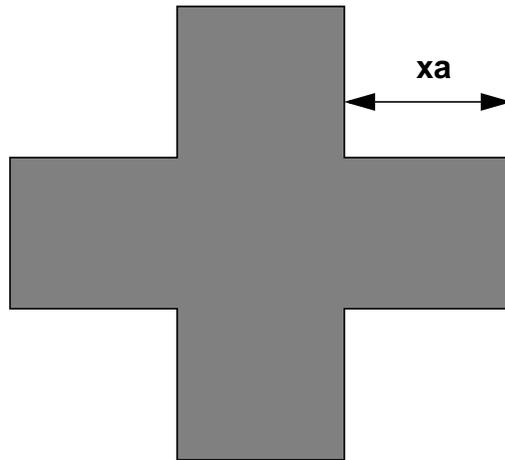

Figure 10: Cross Shaped Fiber Distance xa
- $xa =$ length of the cross, see Fig. 10.